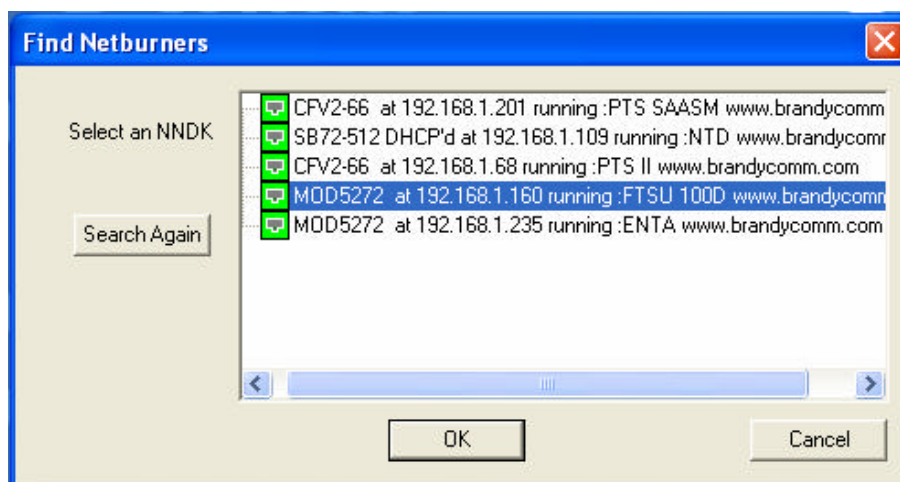

Figure 13 Find NetBurners Screen
2. Enter the IP address of the FTSU-100D in the IP address field. If the user does not know the IP address, press the Find button and Figure 13 will be displayed. Locate and click on the IP address of the unit and click the OK button. The IP address field will be completed for you. If the unit is not on the list, click the Search Again button.